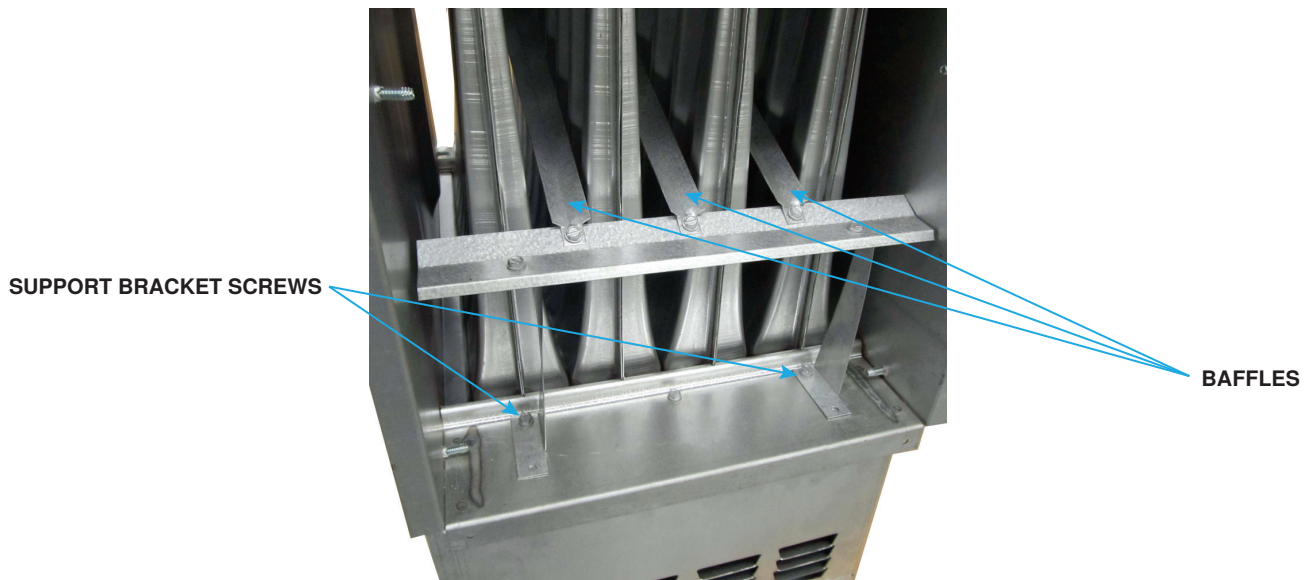

Figure 2. Heat Exchanger Baffle Removal
3. Remove heat exchanger baffles (see **Figure 2**):